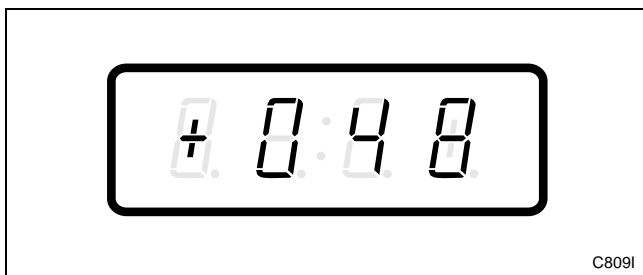

Figure 139
3. Press the DELICATES (+) or the COLD (-) keypad to scroll through the programmable options until “+048” appears in the VFD. Refer to *Figure 139*.